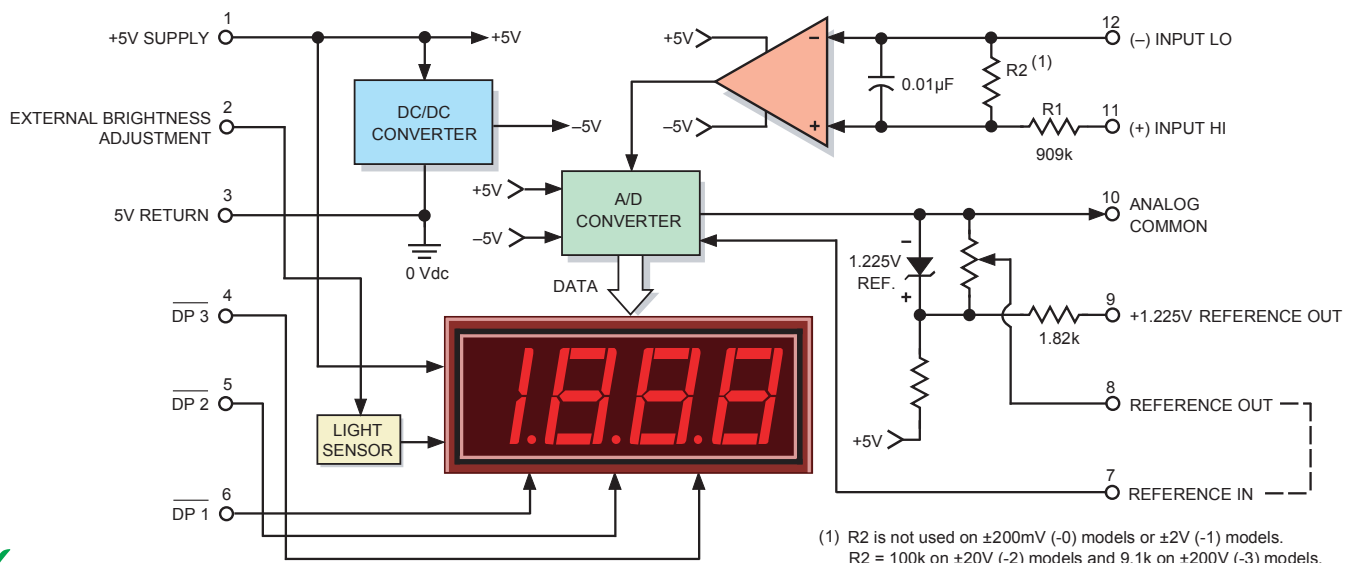

Figure 1. DMS-30DR Simplified Schematic
① Applies for transient or continuous overvoltages applied to (+) INPUT HI (pin 11) with (-) INPUT LO (pin 12) properly connected. Pin 12 is not overvoltage protected (see Figure 1). Voltages applied to pin 12 should not exceed the supply voltage.
② See Technical Notes.
The simplified schematic shown in Figure 1 can be very useful when debugging a malfunctioning panel meter circuit, particularly if the user has some knowledge of operational amplifiers (op amps). The meter’s high-impedance input consists of an op amp powered from a $\pm 5\text{Vdc}$ power supply (the -5V is internally generated). Knowing this, one can easily see why input signals applied to (–) INPUT LO and (+) INPUT HI have to be kept within the power supply rails of $\pm 5\text{V}$. Also note that only pin 11 has a current-limiting 909k Ω series resistor. High input voltages that have a common ground with pin 3 (5V RETURN) should only be applied to pin 11 ((+) INPUT HI) and never to pin 12. In these high-voltage cases, pin 12 should always be tied to pin 3 (5V RETURN).